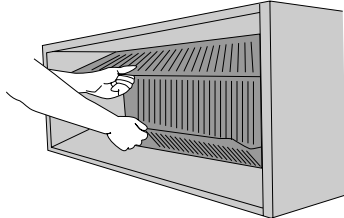

Figure 12. Pull rear closure panel out of wall sleeve
- Grasping the top and bottom flanges of the rear closure panel as shown in Figure 12, the entire panel is pulled out diagonally from one side.